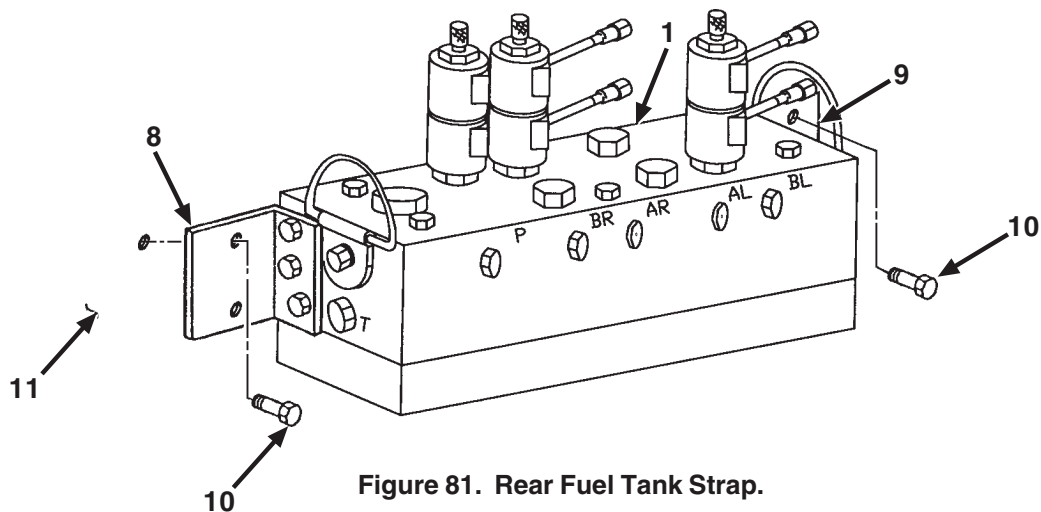

Figure 81. Rear Fuel Tank Strap.
Step 4 applies to Figure 81.
4. Use suitable lifting device to lift front manifold mount (item 8), rear manifold mount (item 9), and track and blade manifold (item 1) to hole in hull wall and attach with four screws (item 10).